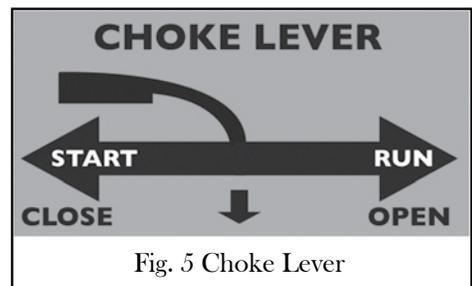

Fig. 5 Choke Lever
5. Move the choke lever to the CLOSE/START position (Fig. 5).